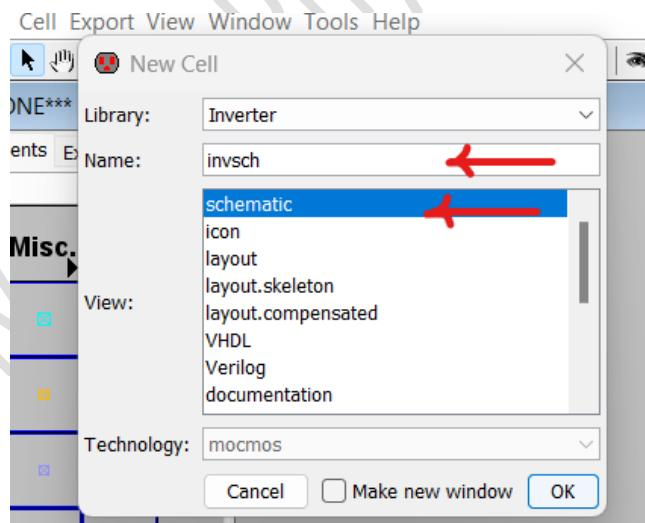

Figure 1.8: Selecting the schematic cell.
6. Select the schematic cell type and name it, for example, "invshc," then click OK (see Figure 1.8).